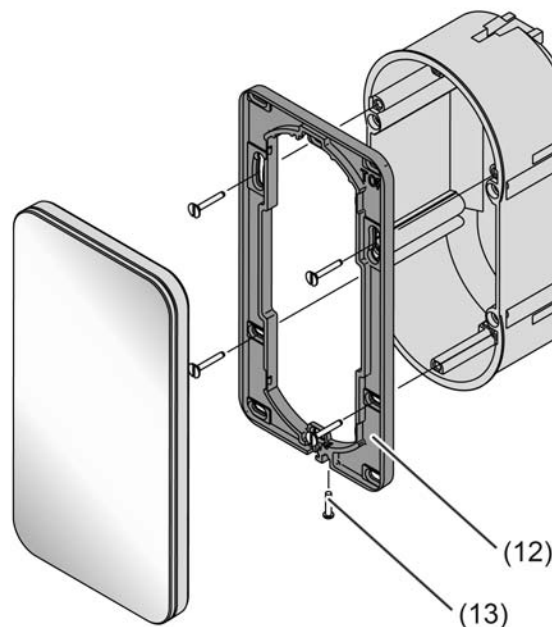

Figure 3: Device mounting of a Comfort touch sensor
- Align the mounting frame (12) and screw it to the flush-mounted box or the wall (Figure 3). Observe marking TOP. Use the enclosed set of screws.
- Connect the KNX cable with connecting terminal to the terminal (6).
- Optional: Connect the external floor temperature/remote sensor to the terminal (5).
- Tighten the retaining screw (13) on the bottom of the mounting frame. Use a Pozi-Drive screwdriver, size 0.